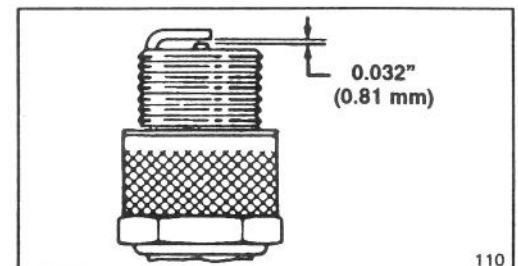

Figure 13
3. Set air gap at 0.032" (0.81 mm) (Fig. 13). Install correctly gapped spark plug and gasket seal. Tighten plug firmly to 15 ft-lb (20.4 N.m).